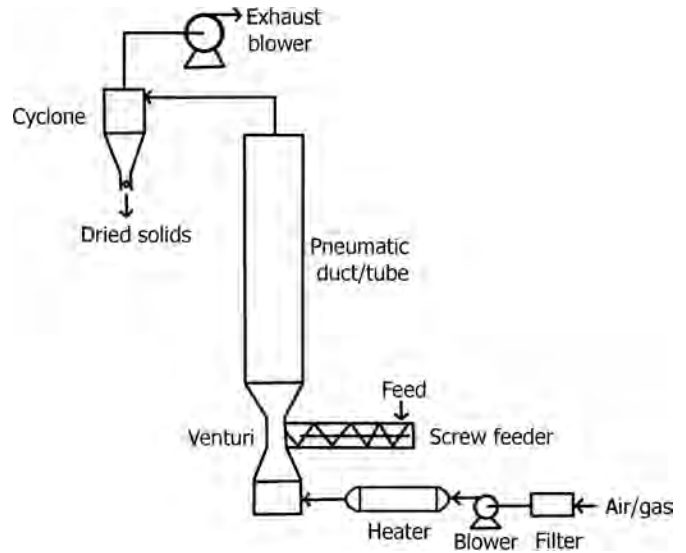

FIGURE 18.31 Pneumatic dryer.
- Figure 18.31 illustrates a basic setup of a pneumatic dryer.
- The simple flash dryer (Figure 18.31) is suitable for drying a wide range of products, for example, inorganic chemicals such as sodium bicarbonate, gypsum and alumina, and organic products ranging from starch to some polymer materials.